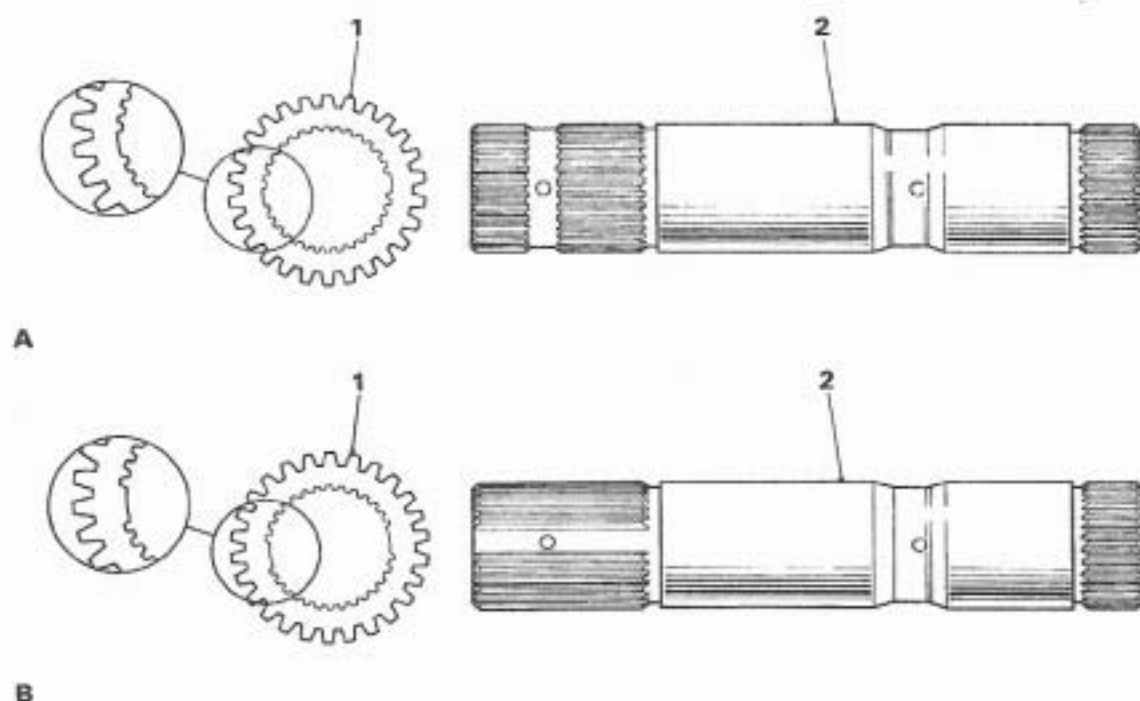

FIG. T278 IDENTIFICATION OF SUN GEAR AND SHAFT
16. Fit the sun gear (see Fig. T278); ensure that the end with the chamfered inside diameter faces down.
17. Fit the sun gear shaft (see Fig. T278) with the longer of the splined ends lowermost.
18. A new design of sun gear and shaft was introduced on Transmission Serial Number RR-71-1287 and onwards (see Fig. T278 for identification). The old sun gear will only fit onto the old shaft but the new sun gear will fit either the new or old shaft. (refer to the latest applicable service literature).